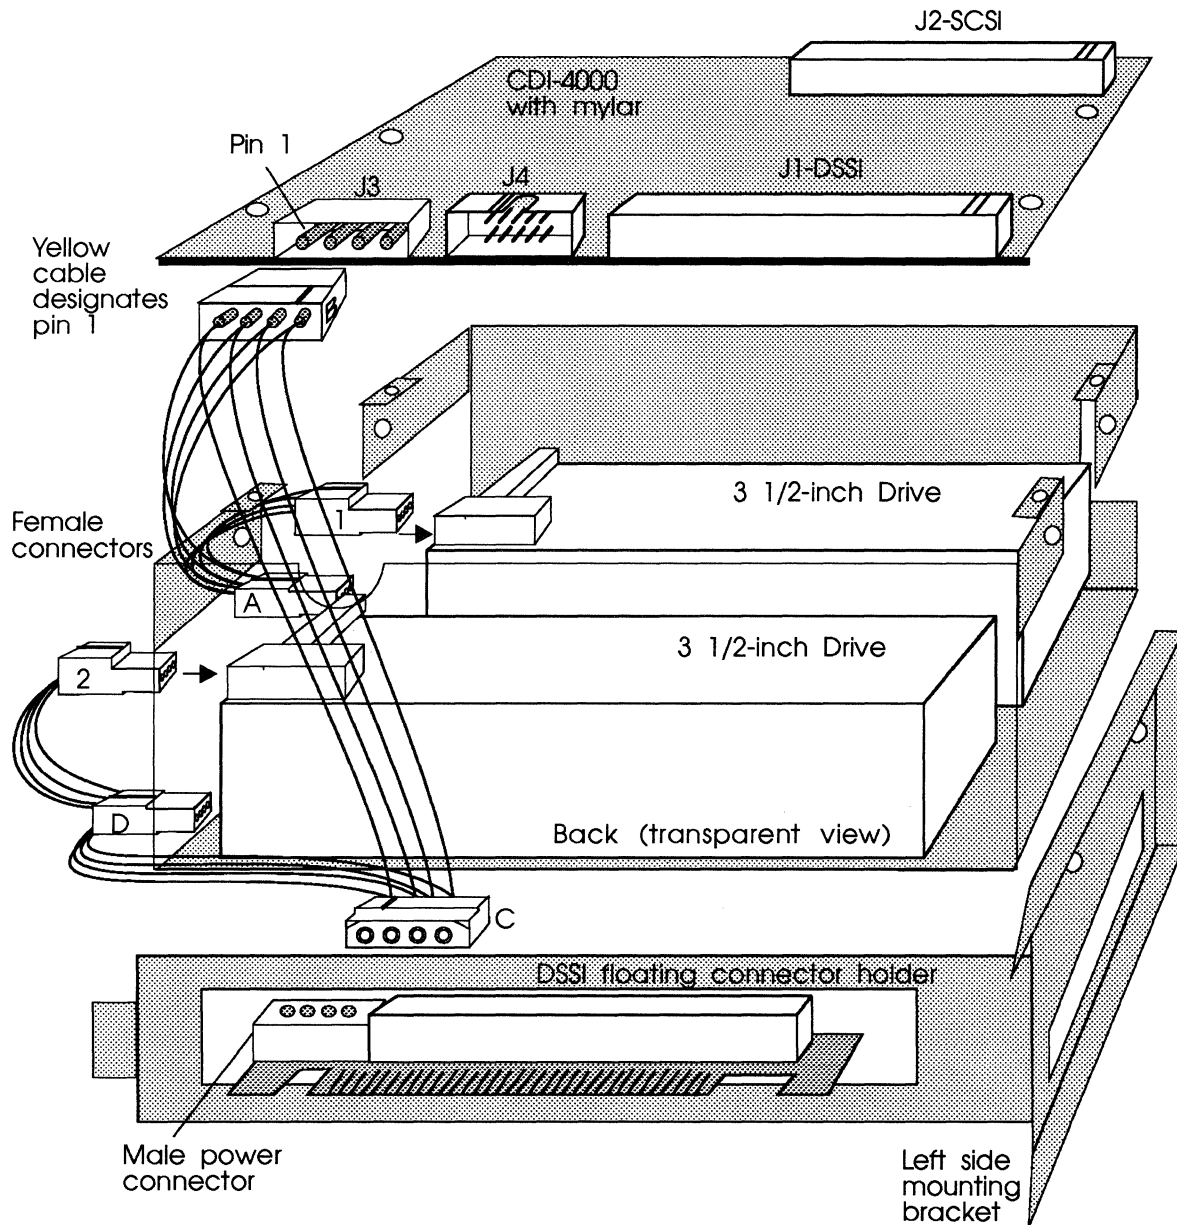

Figure 4-22: CDI-4000-SA2 power connection
- d Connect the connector labeled C to the power connector on the back top of the floating connector holder, see Figure 4-22.